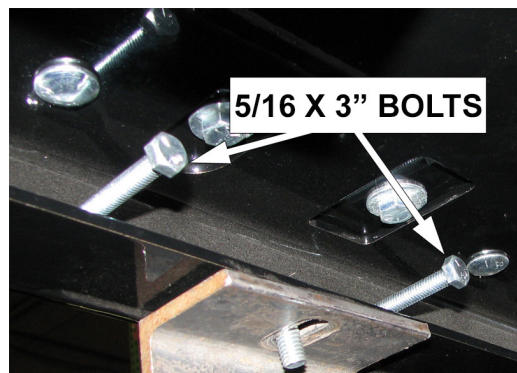

Figure 5.9, Adjustment Bolts
- c. Locate the two 5/16" × 3" bolts and 5/16" flange nuts located on the side of the chipper between the trailer and the engine plate (see Figure 5.9).
- d. Tighten both 5/16" bolts equally to move the engine away from the chipper housing until the belt deflection is about 7/16" when a 20 lb. load is placed against the belt (see Figure 5.9).
- d. Loosen both 5/16" × 3" adjustment bolts equally and push the engine plate against the bolts. Loosen bolts until the belt deflection is about 7/16" when a 20 lb. load is placed against the belt (see Figure 5.9).
16. Adjust the drive belt so that the belt deflection is 7/16" when a 20 lb. load is placed against the belt (see Figure 5.9). To do this, adjust both 5/16" adjustment bolts equally.